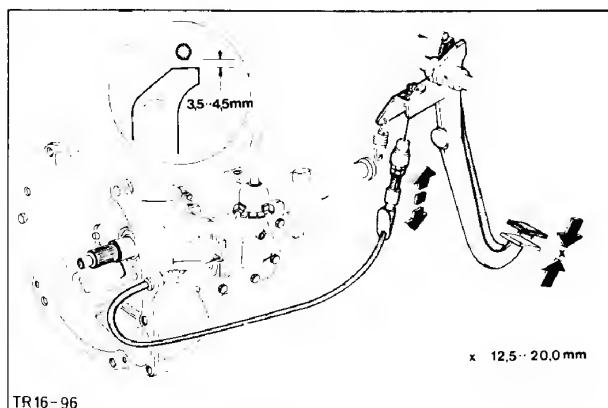

Fig. 16. Adjusting clutch play Pedal movement
23. Adjust clutch pedal play, Fig. 16.